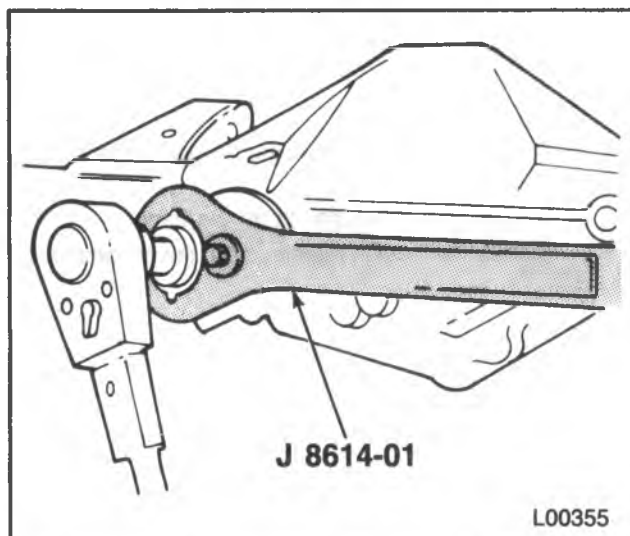

Figure 19 — Removing/Installing the Pinion Nut
- Position J 8614-01 on the flange so that the four notches on the tool face the flange (figure 19).